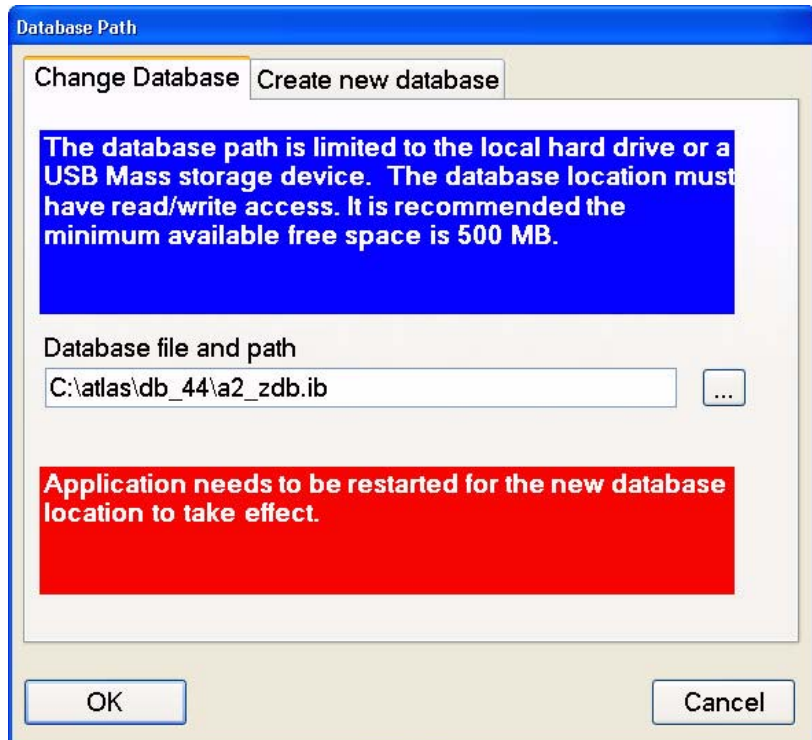

Figure 9-19 Change Database – Change Database Tab
1. Click **Options > Change Database...** The Database Path dialog appears with the Change Database tab selected (Figure 9-19).